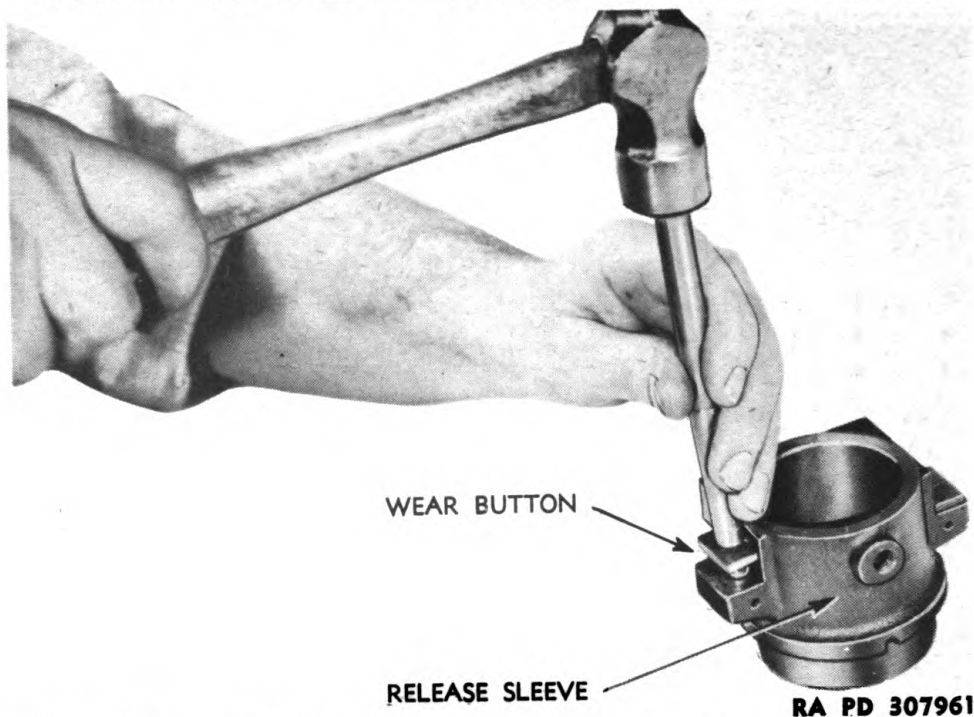

Figure 154 — Installing Wear Buttons in Clutch Release Sleeve
(1) **DISASSEMBLE RELEASE SLEEVE AND BEARING ASSEMBLY.** Unscrew release bearing lubricating tube from elbow in sleeve. Press bearing out of release sleeve. Drive or press wear buttons (fig. 154) from sleeve if they are to be replaced.
(3) **ASSEMBLE RELEASE SLEEVE AND BEARING ASSEMBLY.** Tap wear buttons into sides of release sleeve (fig. 154). Press release